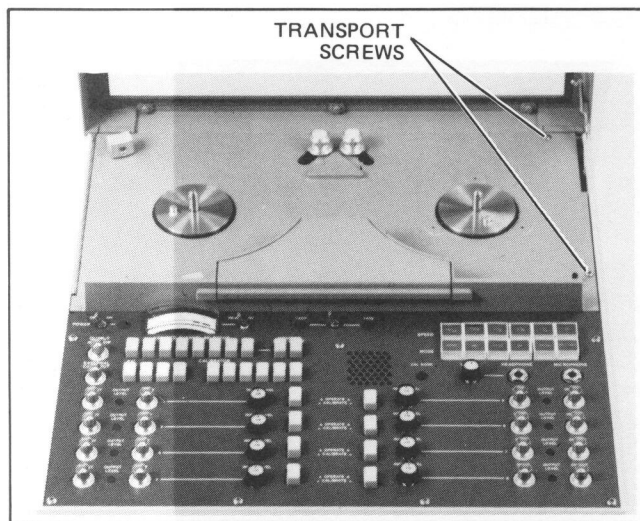

Figure 5-38. Tape Transport Handling
- d. Remove the two screws from the right side of the transport (see Figure 5-38).